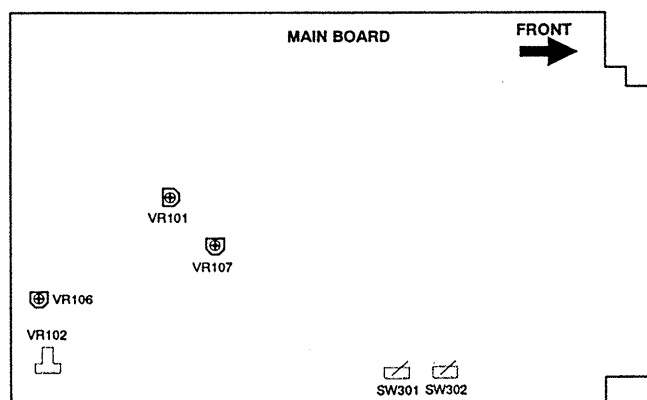

Figure 4-1 Location of on Main board
1. Input a cross hatch pattern in 93.75KHz (1600X1200) mode and adjust VR101 on the main board (see figure 4-1 for approximate location) so the high voltage is in the range 28kV~30kV the set will shut down.
Input a raster pattern (video OFF) in primary mode and push the external brightness control button to maximum. Adjust VR102 (see Figure 4-1 for approximate location) so that the voltage of G1 read on a digital multimeter is -45V \pm 1.
3. Before carrying out white balance adjustment, make sure that the VR106 (see Figure 4-1 for approximate location) position shall be turn counterclockwise to the end (ABL no action).
4. Before carrying out white balance adjustment, make sure that the internal contrast VR107 (see Figure 4-1 for approximate location) shall be turn to the center position.